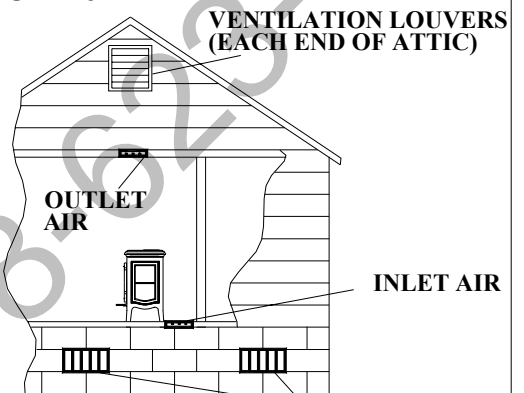

FIGURE 7 VENTILATION LOUVERS FOR UNHEATED CRAWL SPACE
2. *All air from outdoors.* The confined space needs to have two permanent openings, one commencing within 12 inches (30 cm) of the top, and one commencing within 12 inches (30 cm) of the bottom, of the enclosure. The openings shall communicate freely with the outdoors, either directly, by ducts, or by spaces (crawl or attic). The minimum dimension of air openings shall be not less than 9 square inches (8 cm). See Figures 7 thru 9.
A. Where directly communicating with the outdoors, each opening shall have a minimum free area of 1 square inch per 4,000 BTU/hr (5.5 cm² / kW) of total input rating of all equipment in the enclosure. See Figure 7.